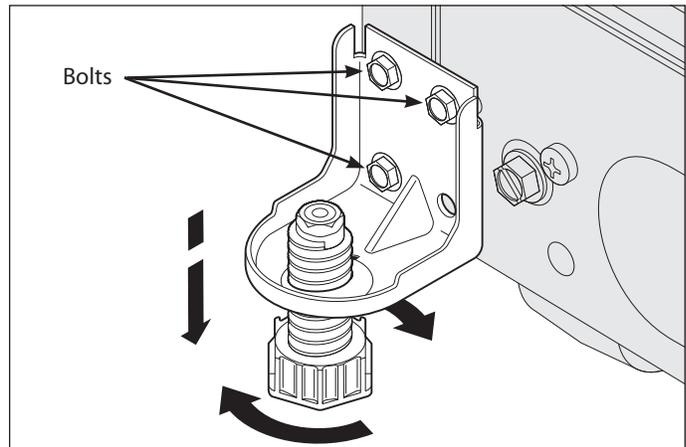

Figure 6-25.
3. Extract the three bolts securing the anti-tip leg to the unit frame and remove from unit. (See Figure 6-25)